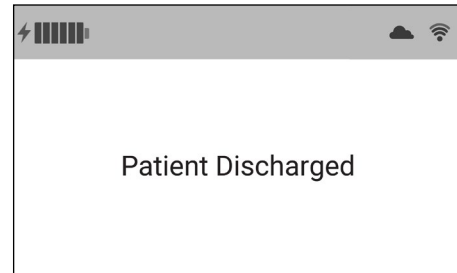

Figure 22. Patient discharge screen
- A Patient Discharged screen will appear for several seconds. (Fig. 22)
- The controller will turn off following patient discharge, three (3) minutes after both the enhancer is disconnected and the controller is unplugged from power.